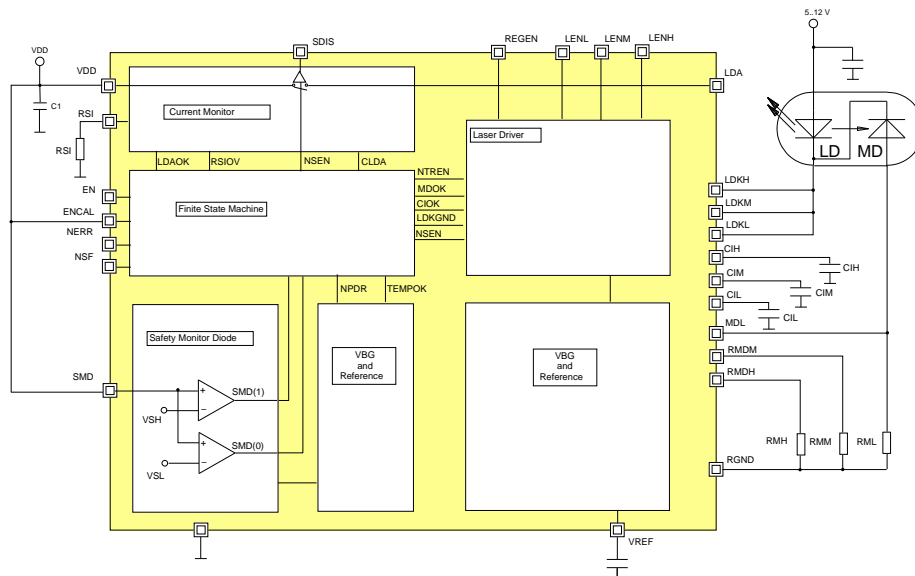

Figure 16: DL-3146-151 and DL-3146-152 in pulse operation with iC-NZ
**DL-3146-151** and **DL-3146-152** are 405 nm M-type laser diodes with a maximum of 70 mA and 110 mA respectively. The considerably higher forward voltage of ca. 5.5V means that only **iC-NZ** can be used here (Figure 16). The laser diode is then powered separately from a higher voltage.